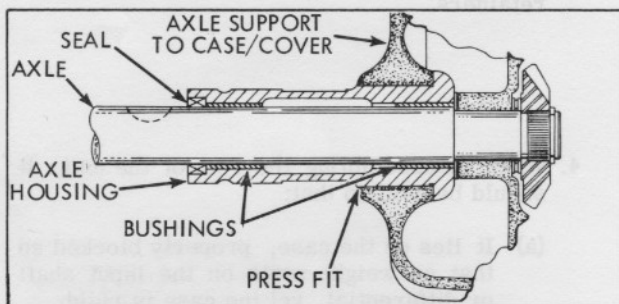

Figure 4-3 1200 and 1400 Series Axle Housing, Bushings and Seal
2. To identify each unit, refer to paragraph C of SECTION 1, and to Figures 4-3, 4-4, and 4-5 for differences in axle support appearance.